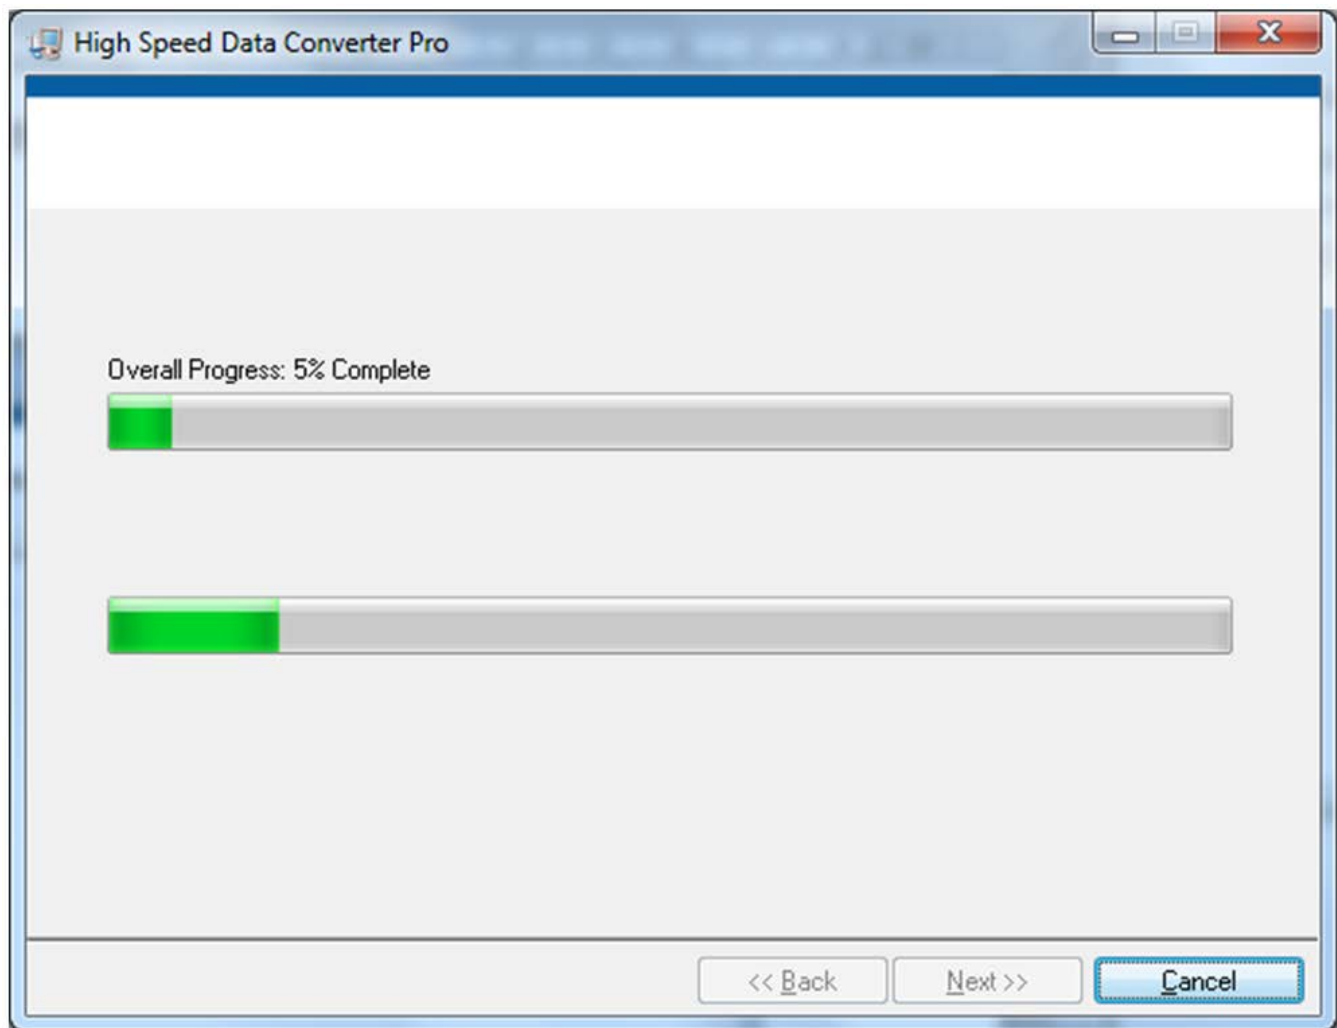

Figure 36. HSDCPro Install (Installation Progress)
- The window shown in Figure 36 should appear indicating that the installation is in progress.